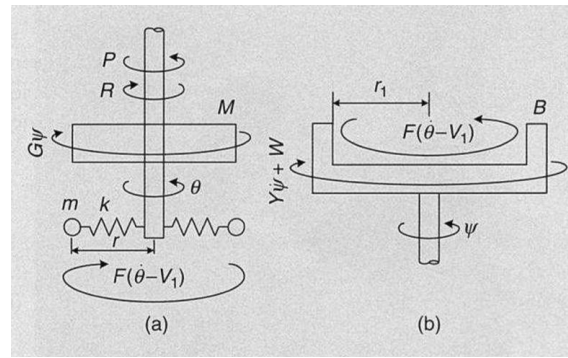

Figure 1.2: A free body diagram of Jenkin's Governor.
- 1.1 Derive the equations for ψ and θ using the free body diagrams shown in Figure 1.2. Combine these two to obtain the differential equation of velocity $w(\dot{\theta})$.**